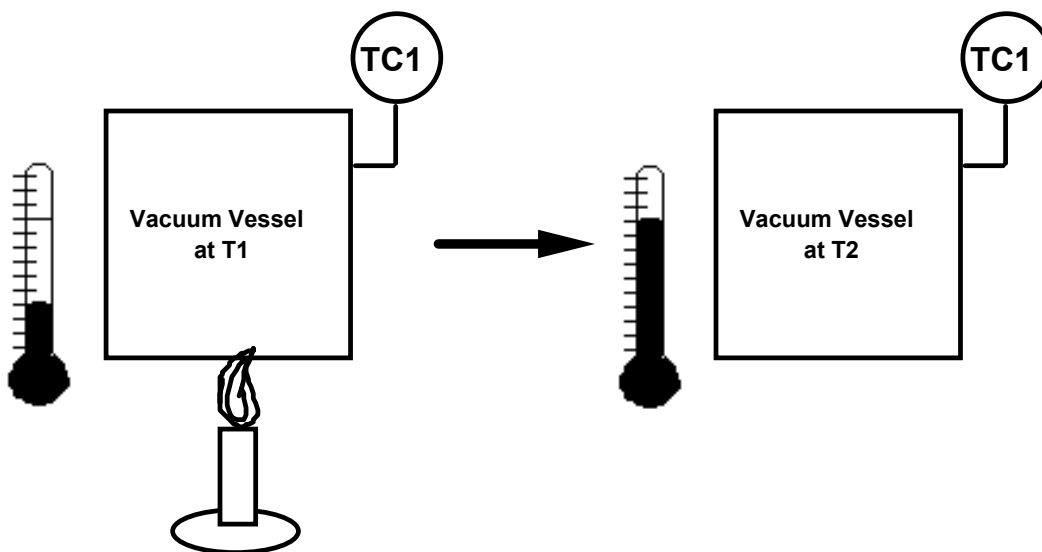

Figure 3.2
- 3.5 If the initial pressure and temperature of the leak-free vessel in figure 3.2 were 50 mTorr and 25 °C respectively, and the vessel was heated uniformly to 100 °C what would be the new pressure reading?